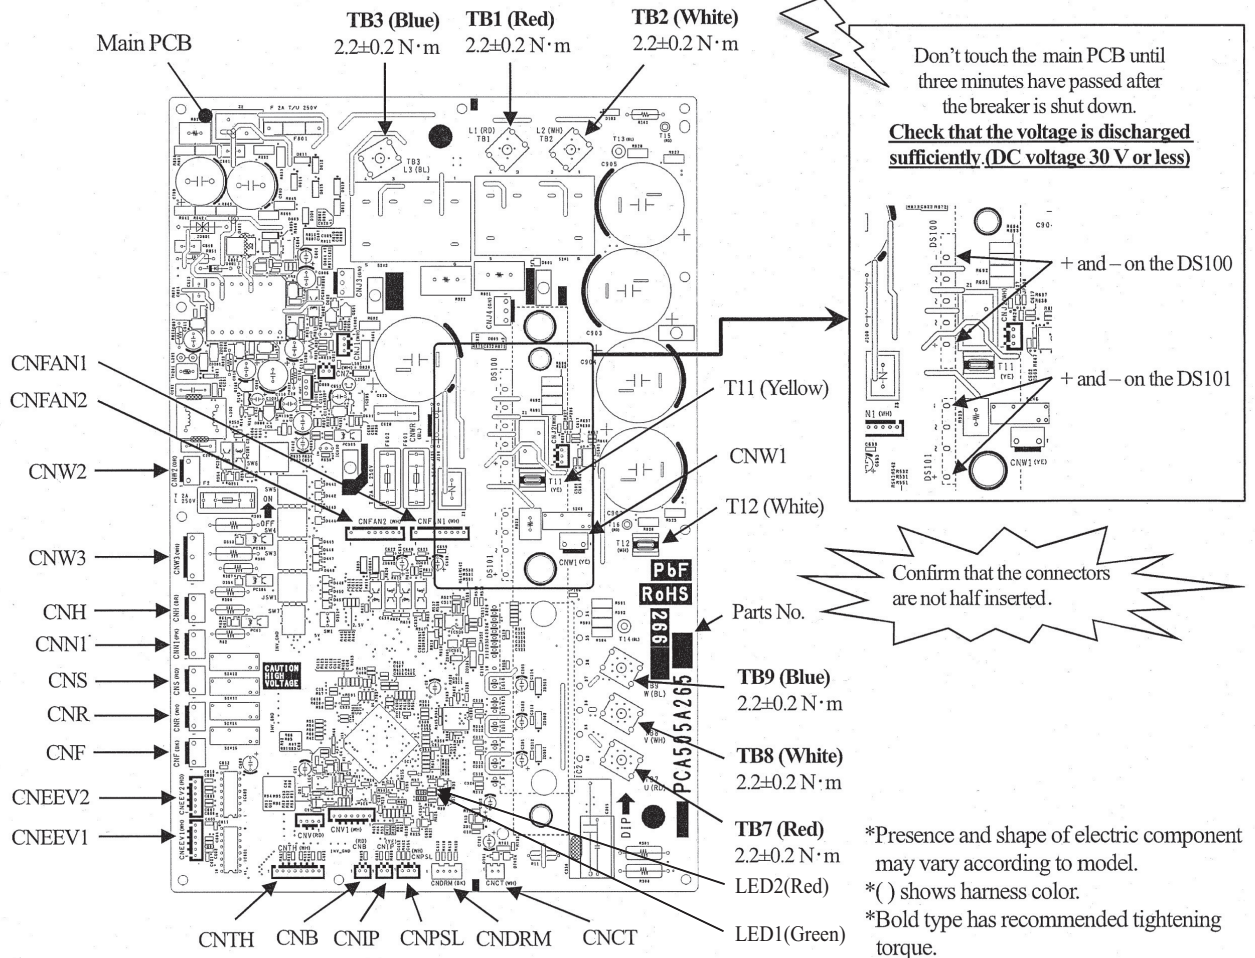

Fig.2 Parts arrangement view of main PCB and voltage measurement points
In the situation that harnesses are connected to main PCB, **be sure to measure voltage (DC)** on main PCB, and **check that the voltage is discharged sufficiently (DC voltage 30 V or less)**. (Refer to Fig.2)
- c) Disconnect the connectors, faston terminals and round terminals from the main PCB as shown in Fig.2.
- b) After the new Main PCB is installed on the control, reconnect the connectors, faston terminals, and round terminals to the main PCB as before. (Refer to Fig.2)